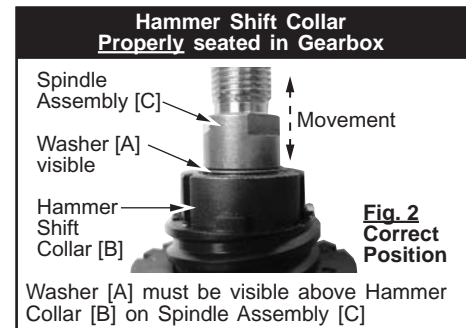

Fig. 2 Correct Position
- Washer [A] visible above hammer shift collar, (fig. 2).
Rotate shift collar left or right by hand until it drops into position shown in (fig. 2). The washer must be visible, and the .160 wide shift collar notch [1] must be in-line or slightly left of top 12 o'clock position, as viewed from the front of the gearbox.
- Turn clutch ring assembly to position shown in fig. 2 to view internal clutch ring posts [C,D,E] for correct position prior to assembling clutch ring to gearbox.